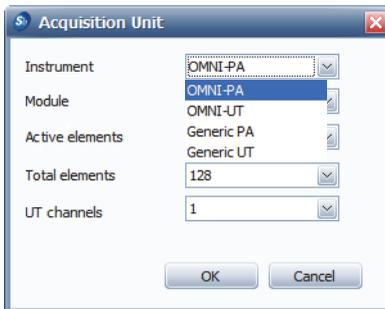

Figure 7-1 The Acquisition Unit dialog box
2. In the **Acquisition Unit** dialog box (see Figure 7-1 on page 66), in the **Instrument** list, select the target acquisition unit technology for which you want to create groups:
When the **OMNI-UT** or **Generic-UT** option is selected, the **Active elements** and **Total elements** lists become unavailable, because the UT target technology supports single-element probe sets only (see Figure 7-1 on page 66).